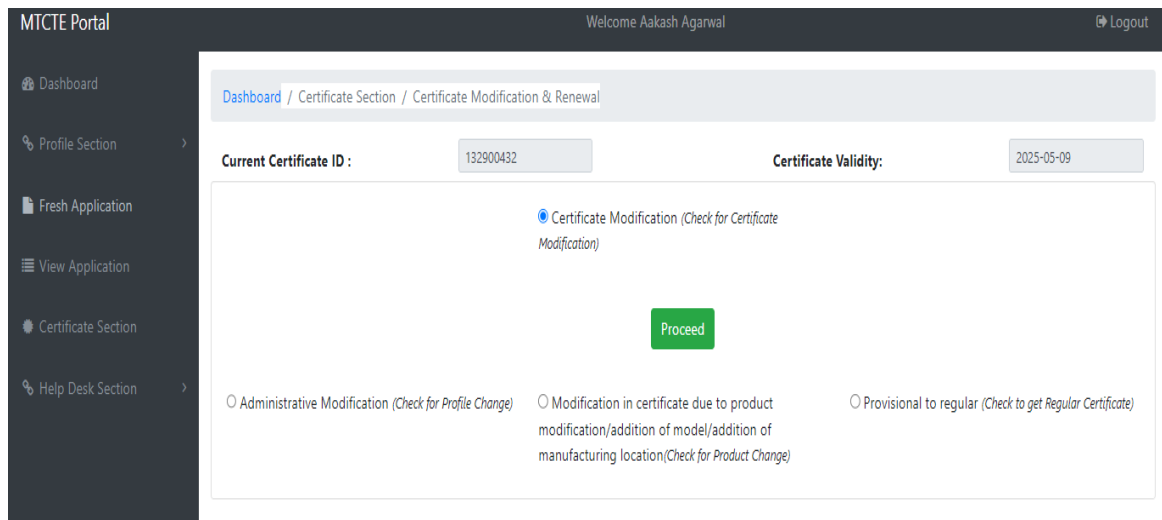

Fig. 31: Type of Modification for Provisional Certificate
- e. For Provisional Certificates, three options will be shown for modification which can be seen in the Fig 31: